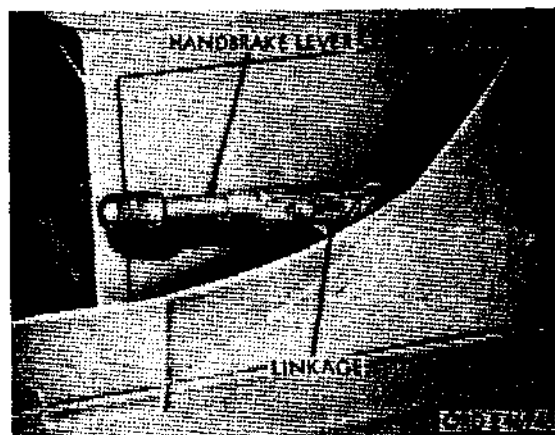

Figure 181. Handbrake lever and linkage.
- (9) Remove cotter pin and clevis pin securing handbrake linkage to handbrake (fig. 181).
- (10) Remove safety nuts and bolts securing handbrake cable clamp to bracket under cab and pull handbrake cable from cab.